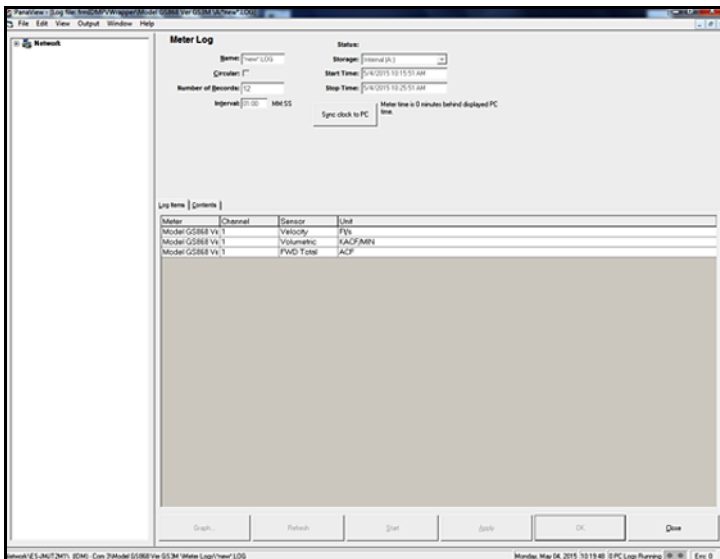

Figure 68: The Meter Log Window
3. At the “*Meter Log*” window shown in *Figure 68* below, the following log specifications may be entered:
- Click on the “*Log Items*” tab (see *Figure 68 on page 89*) for a list of the parameters specified for logging.
- Click on the “*Contents*” tab (see *Figure 68 on page 89*) for a list of all the data points logged to date for the parameter currently highlighted on the “*Log Items*” tab.